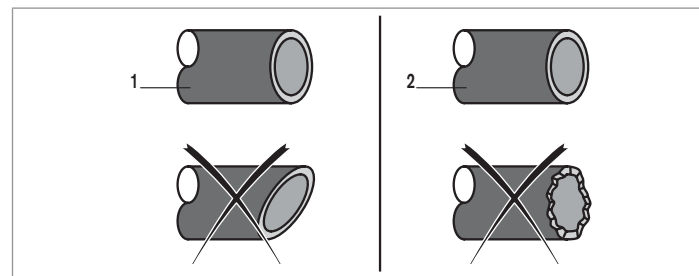

Fig. 17: Pipe cut and deburred
- Cut the pipe squarely [1] and deburr [2]. Refer to Fig. 17.